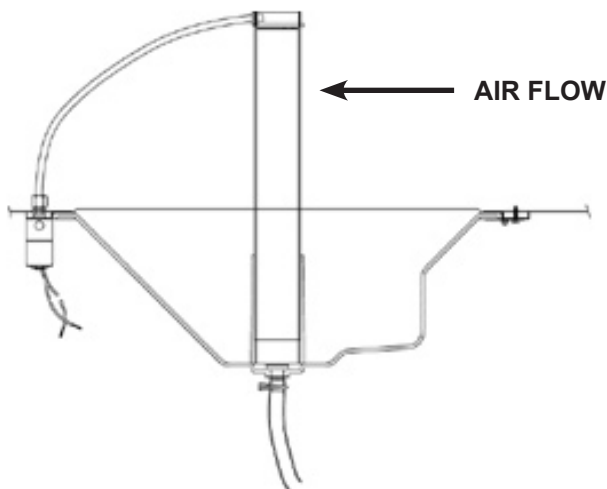

FIGURE 13: Final Positioning of Model 55
3. Raise the unit into a closed position and securely fasten in place, as shown in Figure 13 (page 12).